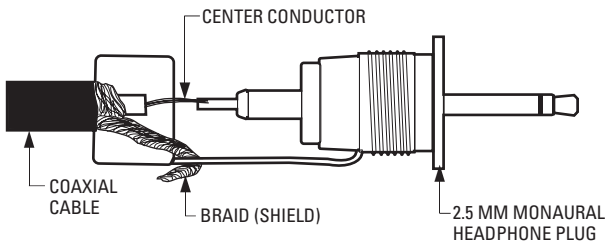

Figure 17. Attaching the 2.5 mm Monaural Headphone Plug
2. Attach the 2.5 mm monaural plug to the other end of the coaxial cable (refer to Figure 17):